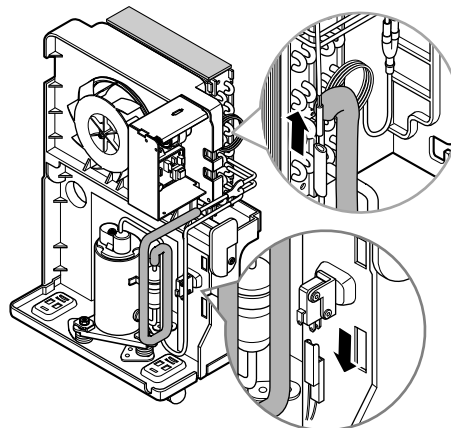

Figure 10
3. Remove the thermistor from the holder. (See Figure 10)
4. Disconnect the switch wires from the micro switch assembly. (See Figure 10)